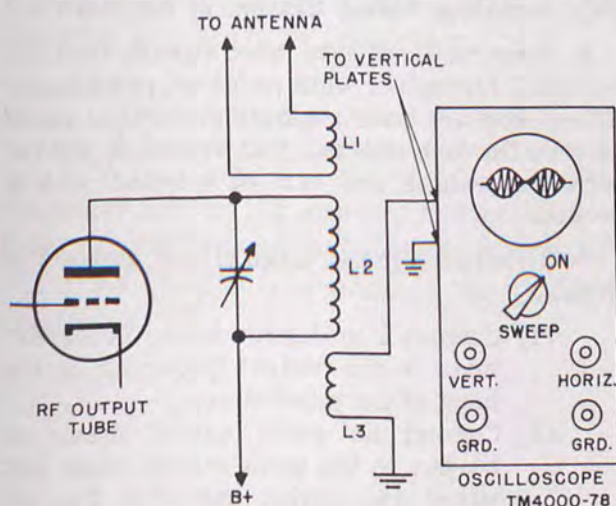

Figure 88. Oscilloscope connections for checking modulation-envelope pattern.
b. To check modulation characteristics while the modulator gain control is being adjusted, observe the results on an oscilloscope screen. Figure 88 shows the connections to the oscilloscope that will cause the modulation-envelope pattern to appear on the screen. Coil L1 is the antenna coupling coil, and L2 is the final tank coil. Coil L3, the third winding, can be wound with a few turns of insulated wire and coupled to the tank. The connections are made directly to the vertical plates and not through the vertical amplifiers. Connections can be made through the vertical amplifiers only when its positive response is wide enough to handle RF. Note that the sweep circuit switch is turned on.
- (2) Connect an audio oscillator to the input of the first speech amplifier. Set the audio oscillator to 1,000 cycles with 1 milliwatt output across 600 ohms. This is equivalent to .75 volt.
- (3) Connect an RF ammeter with a maximum range of 5 amperes between the antenna terminal and the RF dummy load.
- (4) Couple the transmitter RF output to the vertical deflection terminals of an oscilloscope with a pick-up coil. The pick-up coil can be made by winding 2 to 4 turns of insulated wire (about No. 14) over a space of 3 inches. Couple it loosely to the final tank coil L2 (fig. 88).
- (5) Set the transmitter function switch to the am position and turn on the power switch. Adjust the coupling coil so that the pattern covers a large portion of the oscilloscope screen.
- (6) Adjust the audio gain control for 100 percent modulation indication on the oscilloscope. Refer to figures 88 and 89. The grid excitation meter should now indicate a maximum current of 8 ma.
- (7) The power output is calculated from the formula $P = I^2R$, where I is the current reading on the RF meter and R is the dummy load resistance.
- (1) Set up the test equipment (par. 276 and fig. 88). Set the audio oscillator output to zero and the audio gain control on the transmitter for maximum output. Set the oscillator output to the point where 100 percent modulation is shown on the oscilloscope.
- (2) Measure the voltage at the output of the audio oscillator. A voltage higher than the value specified indicates that troubleshooting is necessary.